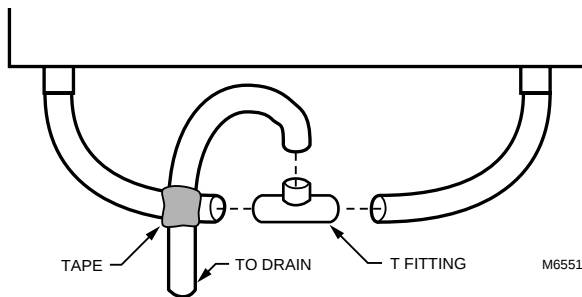

Fig. 9. Installing P-trap.
3. Hand tighten the nut. See Fig. 9.